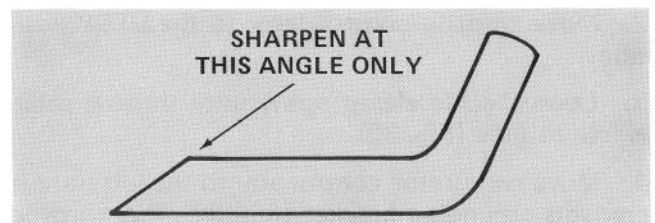

Figure 28
4. Using a file, sharpen cutting edge at both ends of the blade (Fig. 28).
**IMPORTANT:** Sharpen top side of blade and maintain original cutting angle to assure a sharp cutting edge (Fig. 28). The blade will remain balanced if same amount of material is removed from both cutting edges.